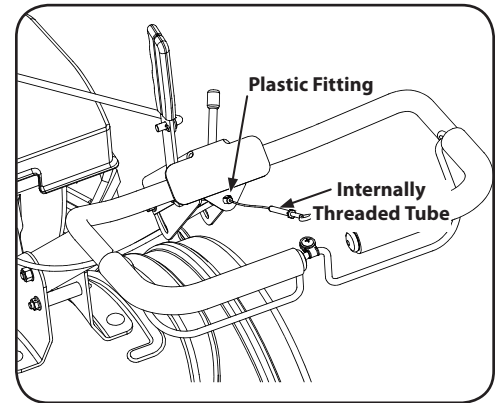

Figure 2-7
3. Push the cable through the hole in the center of the handle and snap into the plastic fitting. See Figure 2-7.